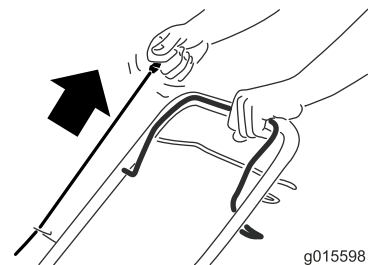

Figure 15
2. Pull the recoil-start handle (Figure 15).